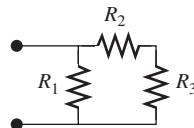

FIGURE P3.2 Circuit for Problem 3.2.
- 3.2 (B) Identify which resistors are in parallel and which are in series in Figure P3.2.